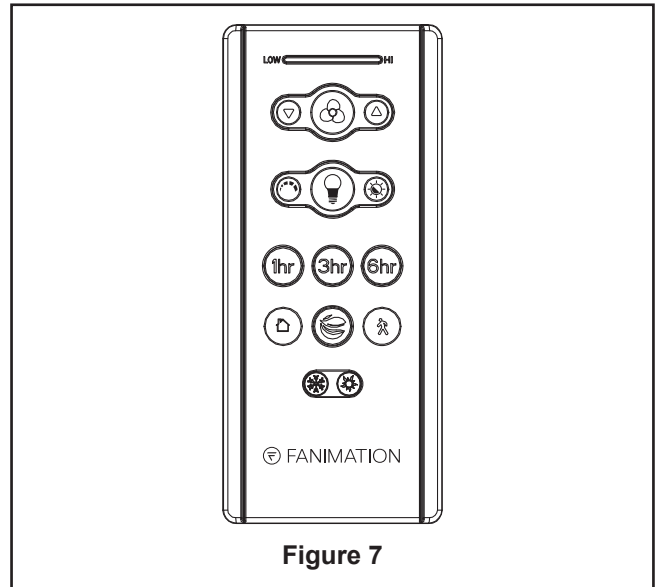

Figure 7
9. Remote functions: (Figure 7)